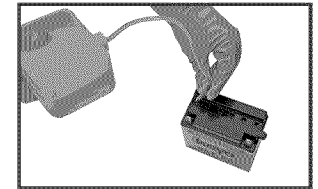

Figure 22
- Wear eye protection and rubber gloves for this step. Cut off tip of electrolyte bottle and attach tube. Place other end of tube in battery and allow the electrolyte to drain in battery cell. Fill battery to upper level mark located on front of battery. Repeat step for each of the 6 cells (see figure 22)